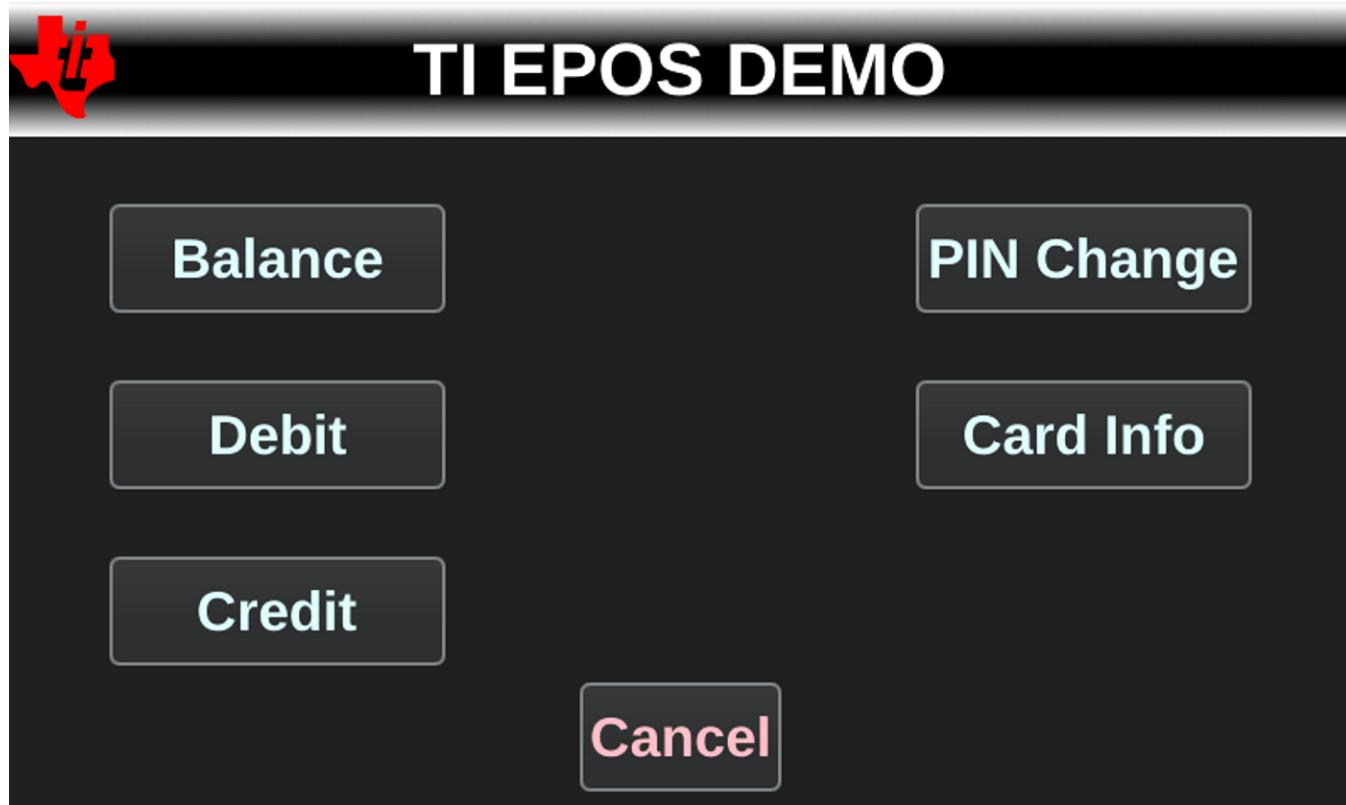

図 15. PIN Authentication Successful
3. Result: On successful PIN authentication, the TI EPOS Demo menu screen opens (see 図 15).